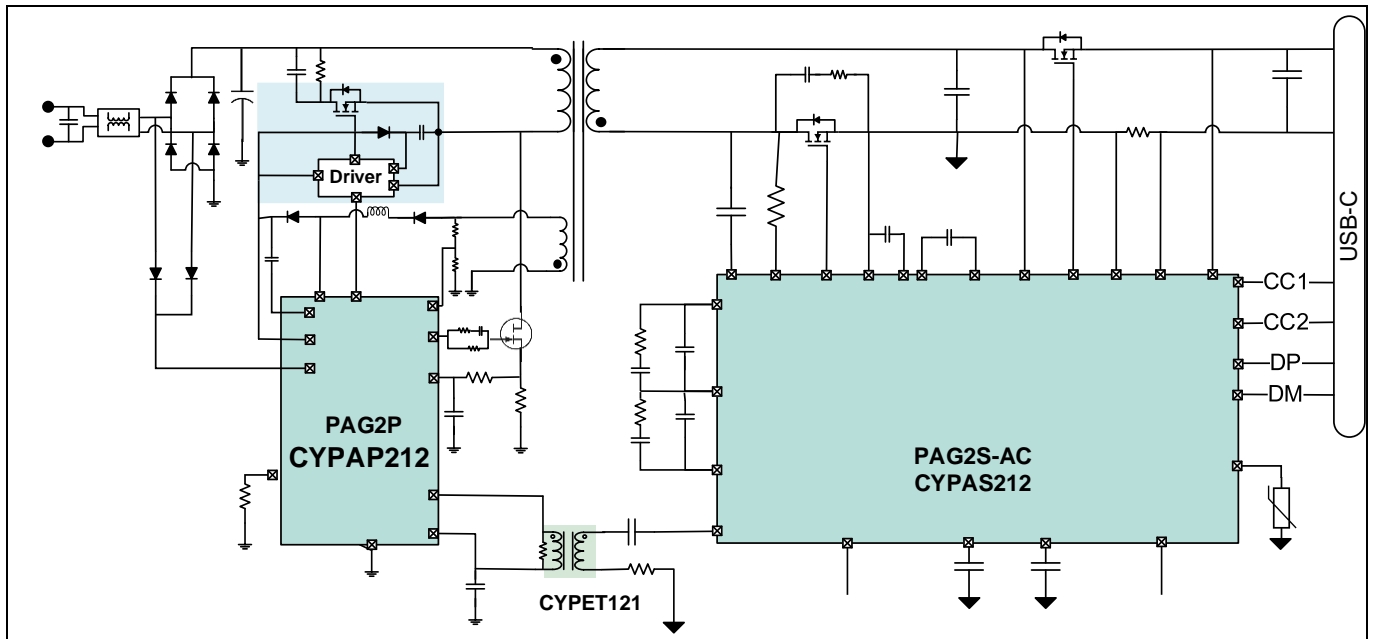

Figure 1 PAG2P +PAG2S USB Power Delivery (PD) power adapter solution application diagram
PAGxP works with a secondary-side controller, PAGxS. Figure 1 shows the application diagram of a USB Power Delivery (PD) Power Adapter solution with 'PAG2P +PAG2S'. In this system, once the start-up phase is complete, the primary FET control is completely synchronized to the PWM pulses received from the secondary side. The PWM pulses are transmitted over an isolation barrier using the pulse edge transformer (PET).